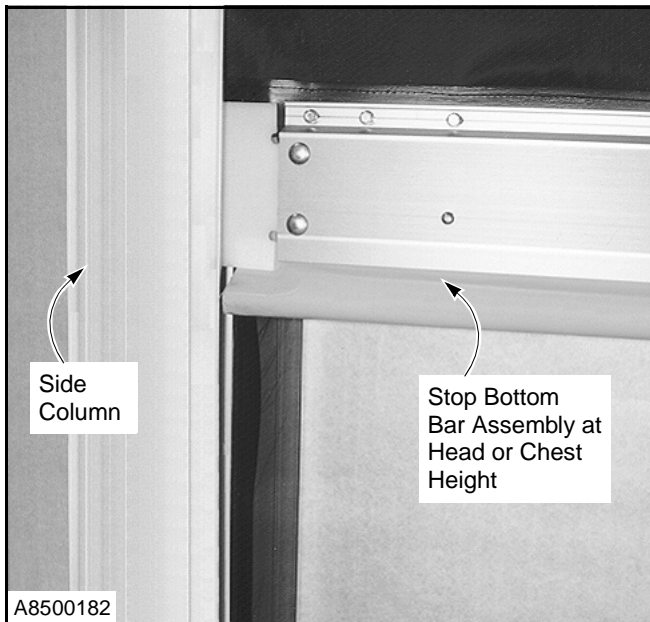

Figure 38
1. Raise or lower the door, as necessary, until the bottom bar is approximately head or chest height. (See Figure 38.)